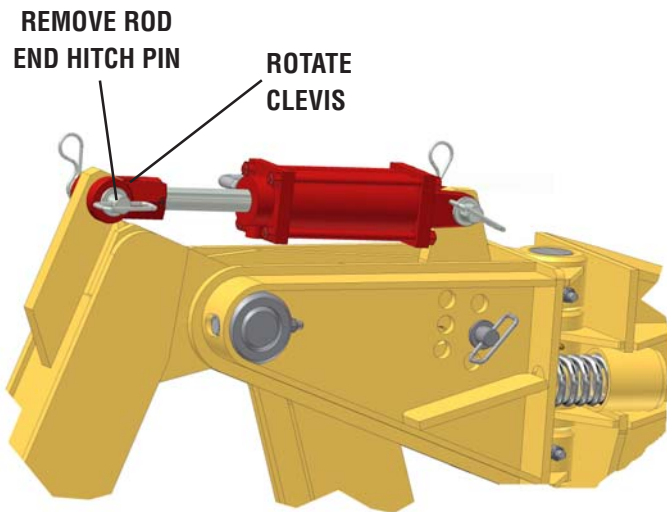

Figure 8
- The clamping of the VTA is adjustable, should this be necessary. To do this, remove the hitch pin from the rod end side of the carrier assembly's hydraulic cylinder. The rod end's clevis is threaded onto the cylinder rod. To adjust the clevis, loosen the clevis' clamping bolt and thread the clevis in or out. Threading in will open/widen the carrier assembly and threading out will close/narrow the carrier assembly. See Figure 8.